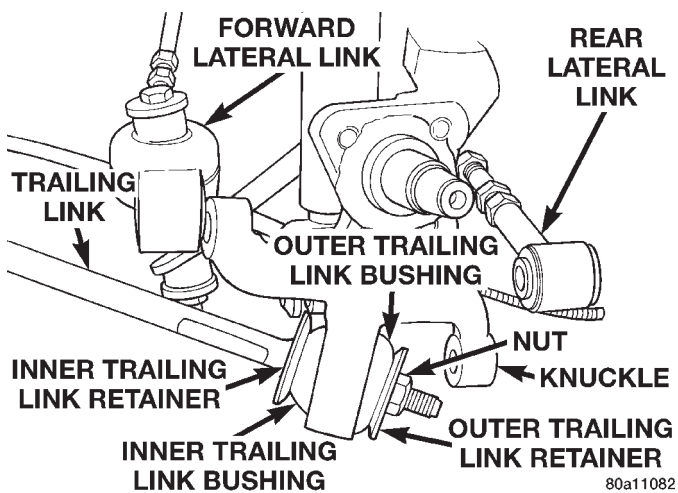

Fig. 19 Trailing Link Bushing And Retainer Installation
CAUTION: When installing trailing link bushing retainers, retainers must be installed with cupped side of retainer facing away from bushing and knuckle (Fig. 19).
(2) Install knuckle on trailing link. Then install the outer trailing link bushing, bushing retainer and retaining nut on trailing link (Fig. 19). Using a large adjustable wrench, to keep trailing link from rotating securely tighten the trailing link retaining nut (Fig. 19) to a torque of 99 N·m (73 ft. lbs.).